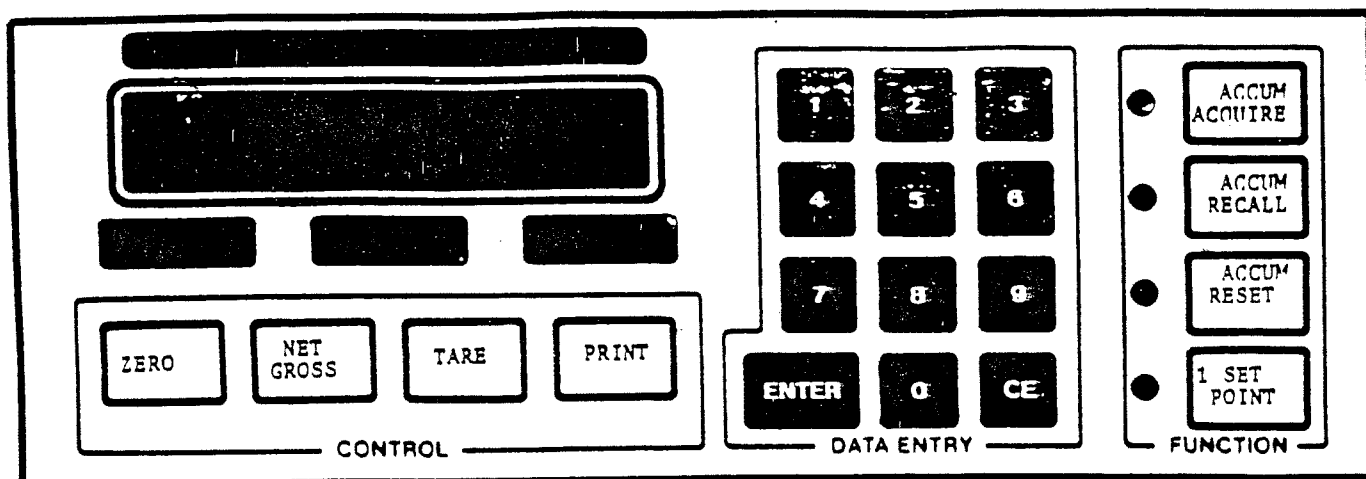

FIGURE 1.3
- C.1 A single-register accumulator (Figure 1.3, Section 7)